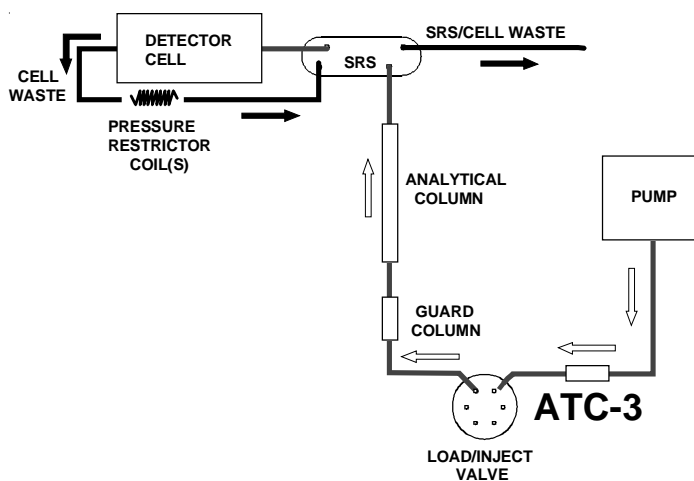
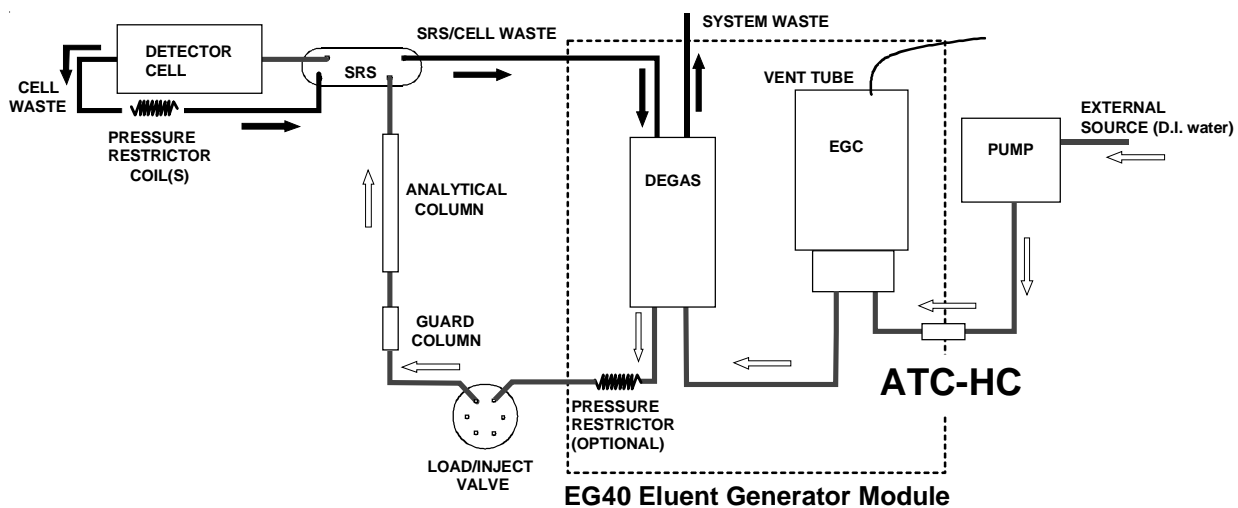

Figure 1
Figure 2
- A. Remove the high pressure Gradient Mixer installed between the gradient pump pressure transducer and the injection valve. For the ATC-HC column remove the ATC installed between the pump outlet and the inlet of the EluGen-KOH Cartridge located in the EG40 module. See Figure 1, "System Flow Diagram for Dionex IC Systems Using the ATC-3 Trap Column" and Figure 2, "System Flow Diagram for Dionex IC Systems Using the EG40 Eluent Generator with the ATC-HC Trap Column."
- D. After the conditioning of the ATC-3 column, connect the ATC-3 column to the liquid line connected to the inlet port of the injection valve (See Figure 1).
- D. After rinsing the ATC-3 column with eluent, connect the ATC-3 column to the liquid line connected to the inlet port of the injection valve (See Figure 1).
- E. After the conditioning of the ATC-3 column, connect the ATC-3 column outlet to the liquid line connected to the inlet port of the injection valve (See Figure 1).